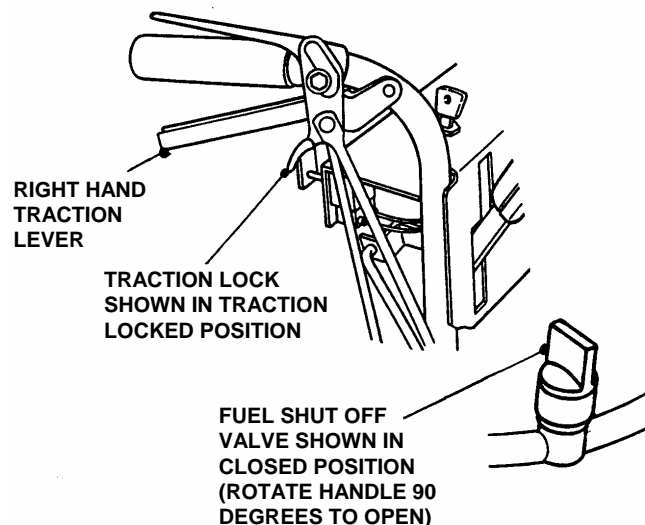

FIGURE 3.2
1. Turn Fuel Shut-Off Valve **ON**. See Figure 3.2.
2. Squeeze both Traction Levers toward the Handle while pulling right and left Traction Locks rearward until **BOTH** Traction Levers are **LOCKED** in the Traction Locked position. See Figure 3.2.